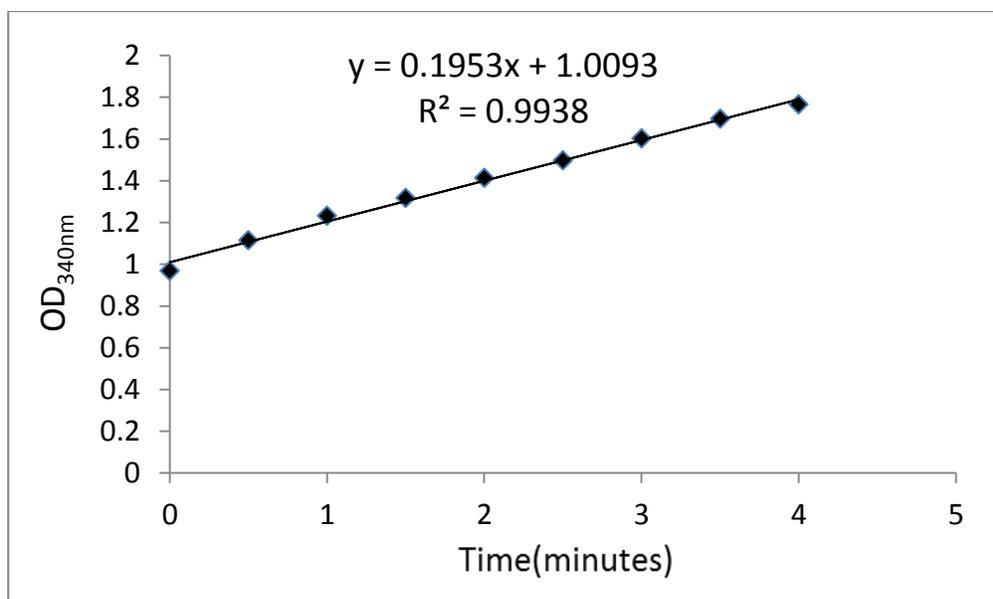

Figure.1 Absorbance change of diluted GST positive control at 340nm.
Diluted GST positive control is measured with the GST Assay kit after different time of reaction (Figure 1 and 2). The detection limitation is from 0.04 to 0.6 U/mL.
2. Add 90  $\mu\text{L}$  of working reagent mix into each well of the 96-well plate containing diluted GST positive control, samples and blank, mix well immediately and start recording  $\text{OD}_{340\text{nm}}$  over a 4 minutes interval, collecting data every 0.5 min. Figure 1 shows data of diluted GST positive control.